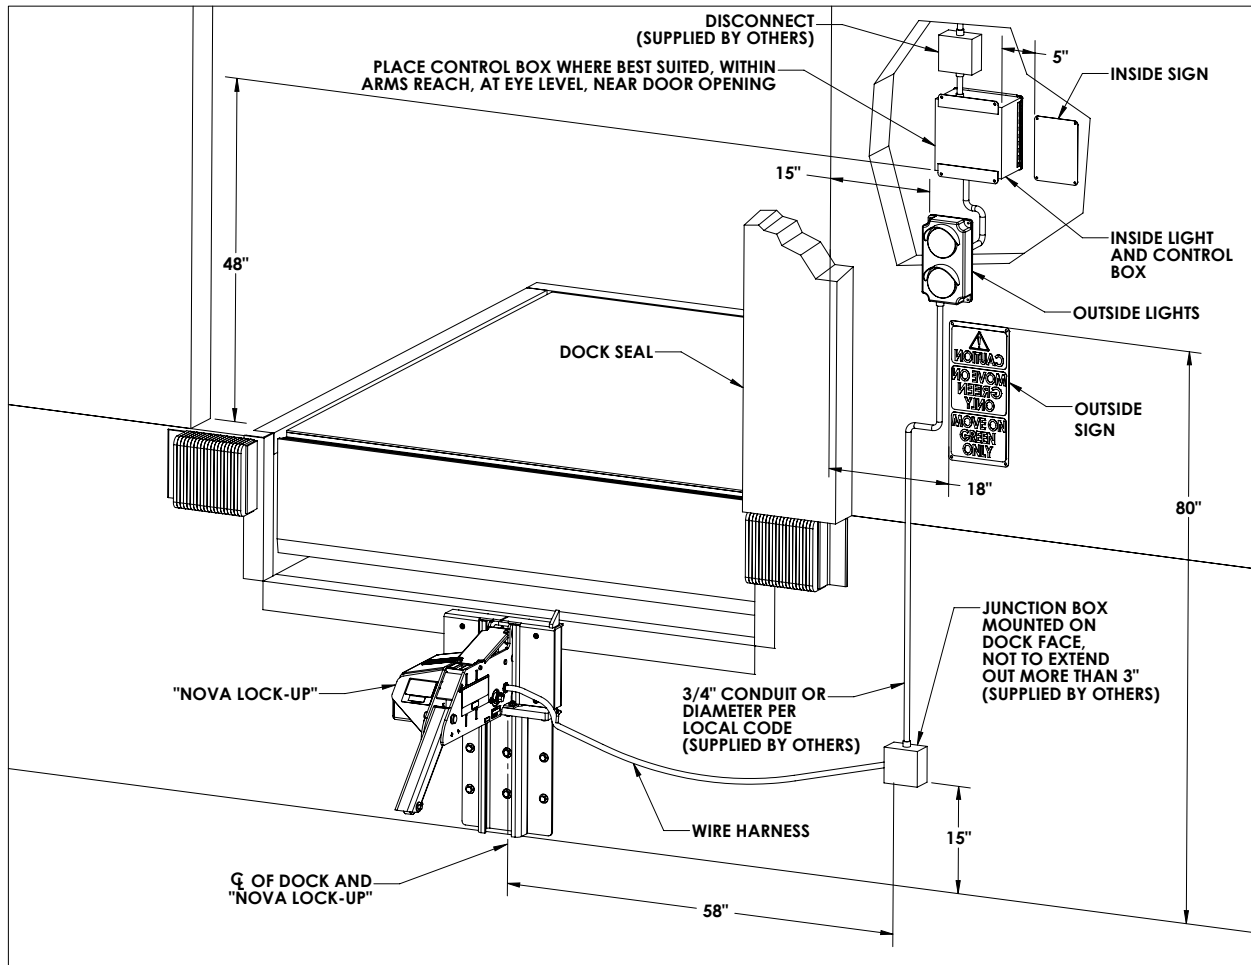

FIGURE 2—SUGGESTED COMPONENT LOCATION
There is one (1) driver caution sign and one (1) inside caution sign supplied with each NOVA Lock-Up™ vehicle restraint. (Mounting hardware supplied by others.) Mount outside sign as shown in Figure 2. Mount the inside sign next to the control box. Attach placard to control box with zip tie supplied or mount next to the control box. Install all signs provided.